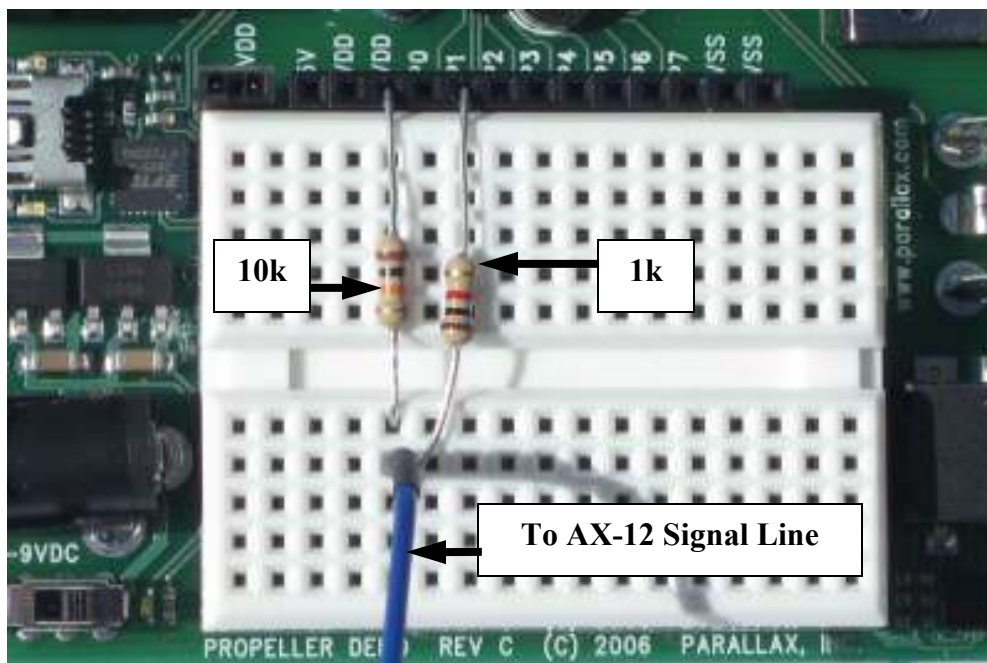

Figure 1 - Propeller Demo Board
2. Connect the 1k resistor to the output port (p0 – P7) that you will be using for the communication port on the Propeller Demo Board. In this example we used P1. Be sure to connect this resistor to the same row on the breadboard as the 10k resistor as shown in figure 1.